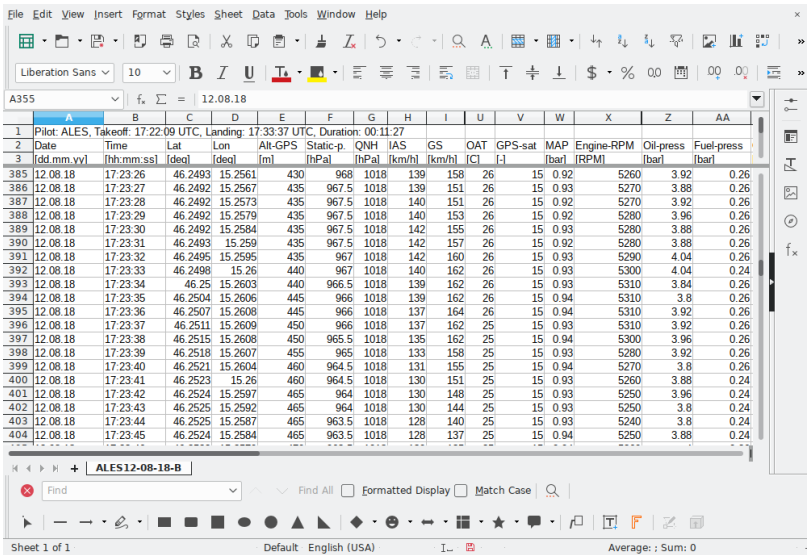

Figure 48: An example of flight details upon successful import.
6. The result of the import is then shown on Figure 48. Some column widths were adjusted and some cells were hidden.